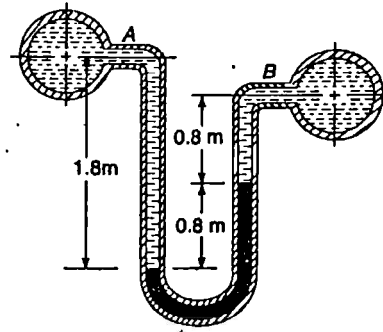

Fig. 2-30
2. A differential manometer containing mercury was used to measure the difference of pressures in two pipes containing water as shown in Fig. 2-30. Find the difference of pressures in the pipes, if the manometer reading is 0.8 m. [Ans. 9.88 m]